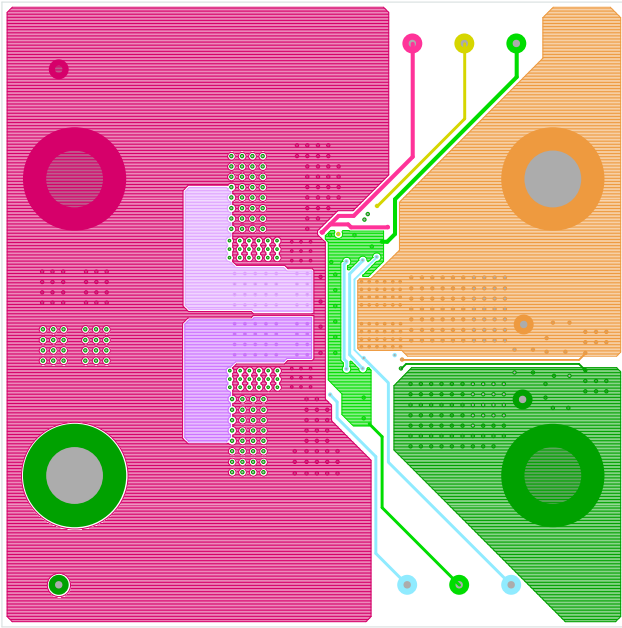

FIGURE 7. LAYER 4
2. Phase 1 and Phase 2 pads are switching nodes that generate switching noise. Keep these pads under the module. For noise-sensitive applications, it is recommended to keep phase pads only on the top and inner layers of the PCB; do not place phase pads exposed to the outside on the bottom layer of the PCB. To improve the thermal performance, the phase pads can be extended in the inner layer, as shown in Phase 1 and Phase 2 pads on layers 4 and 5 (see Figures 7 and 8) for this 40A evaluation board. Make sure that layers 3 and 6 have the GND layers to cover the extended areas of phase pads on layers 4 and 5 to avoid noise coupling.